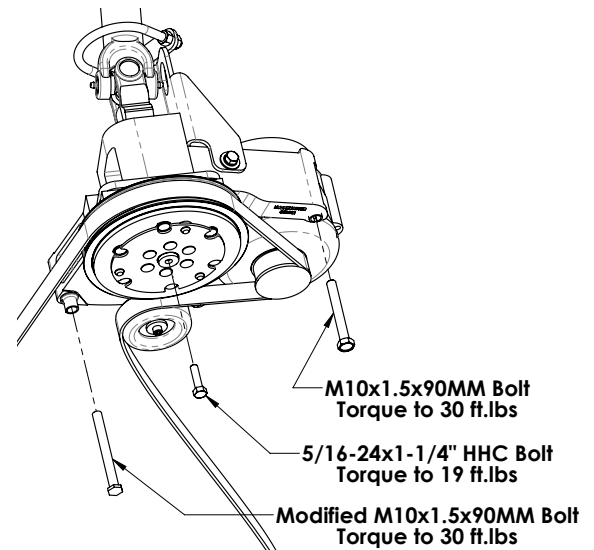

Figure 32. Installing the clutch pulley and clutch housing
8. Next install the clutch pulley onto the clutch housing installed in the previous step, torque the bolt to 19 lbf.ft. (Figure 32)
9. Use the supplied 10mm x 90mm Allen head screw on the right side and use the supplied modified bolt on the left side. The modified bolt has the head shaved down to allow clearance for the new drive belt (Figure 32). Use blue Loctite on the bolts and tighten them evenly and torque to 30 lbf.ft.